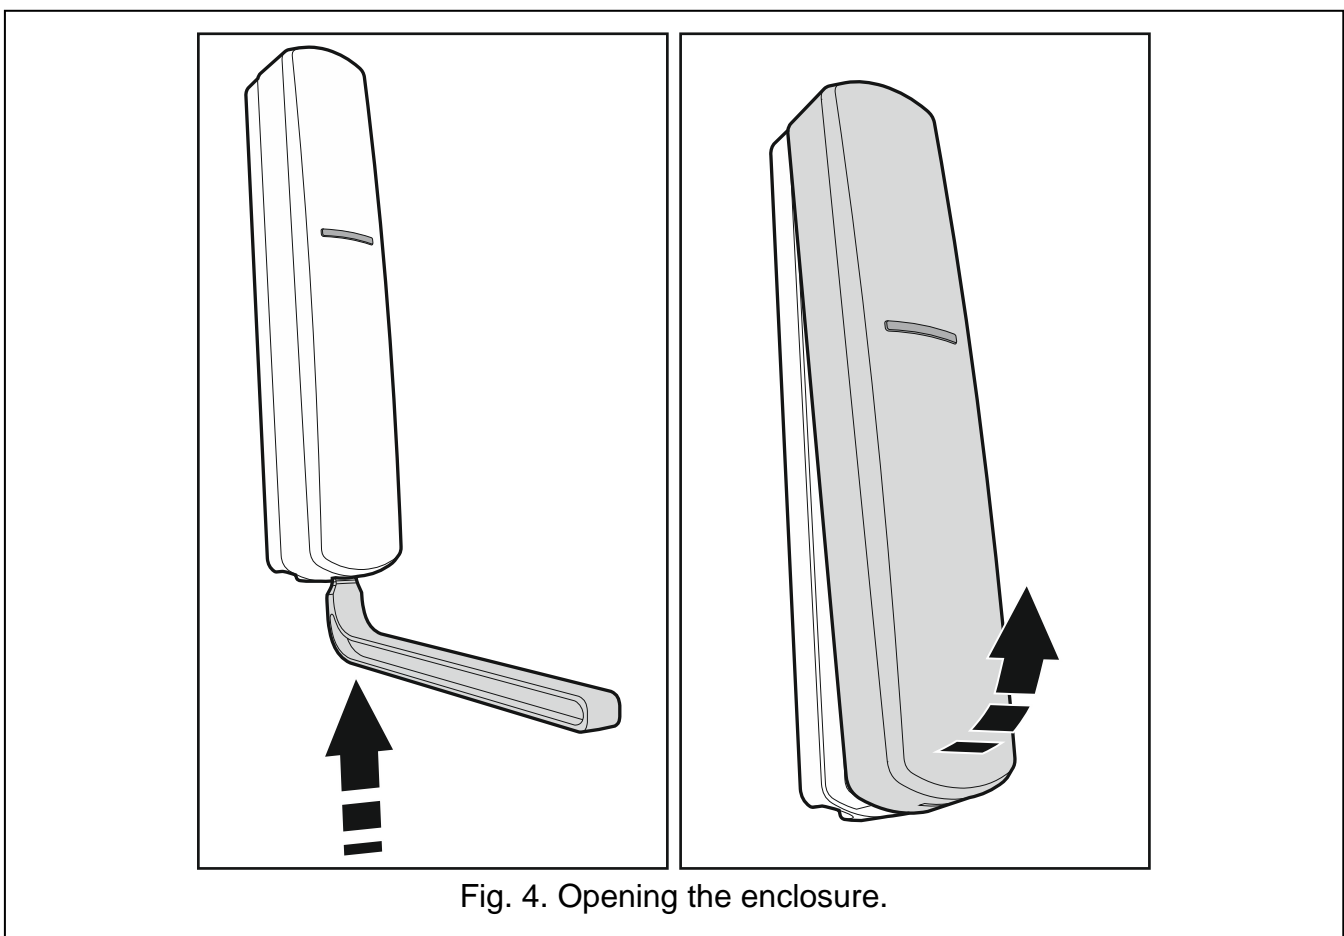

Fig. 4. Opening the enclosure.
1. Open the controller enclosure (Fig. 4). The enclosure opening tool, shown in the illustration, is included in the detector delivery set.